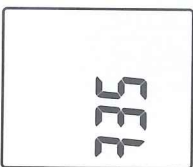

Fig.5
- (1) Turn off the unit.
- (2) Enter SETUP mode by pressing and holding MIN MAX button and then press F.O.I. power button to turn on the unit. "SET" blinks on the LCD screen. (see Fig.5)